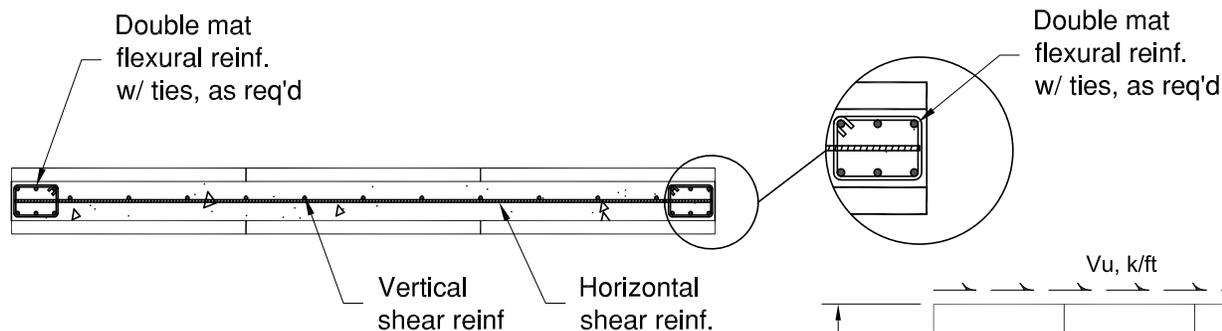
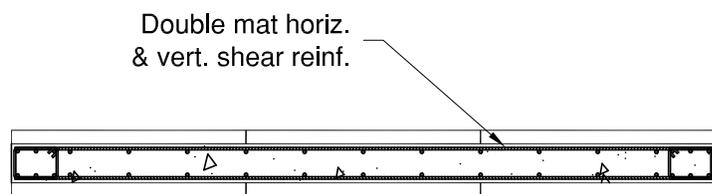

FIGURE 7: PLAN VIEW
FIGURE 8: PLAN VIEW
2. Provide double mat of reinforcement for 12" Logix wall. See Figure 8.
3. Where more than one bar is shown use double mat for flexural reinforcement. See Figure 7 (or Figure 8 for 12" Logix).